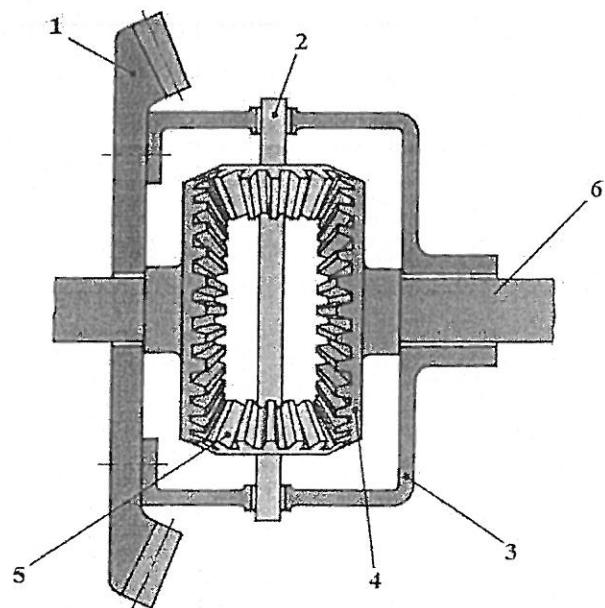

Figure 3
- III. Figure 3 shows a differential;